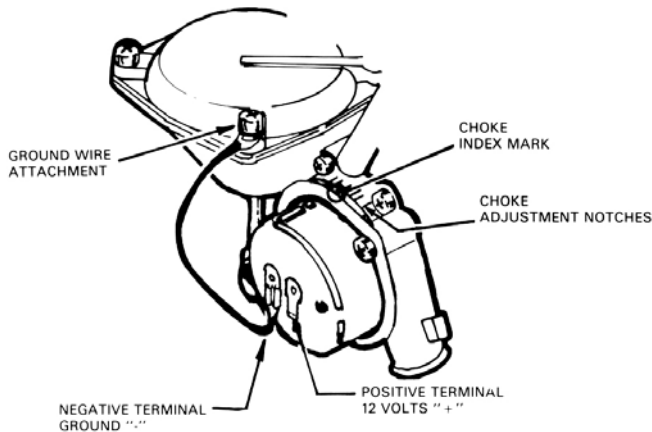

Figure 11
NOTE: Be sure the other connector is connected to a good ground. See Figure 11.
1. There will be an index mark on the choke cap and there will be adjustment notches on the choke cap housing. For initial setting make sure index mark is in the center of the adjustment notches. See Figure 11.